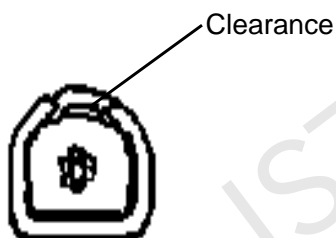

Fig.15
- ① There is a clearance between wire insulation and strain relief as shown in Fig.15.